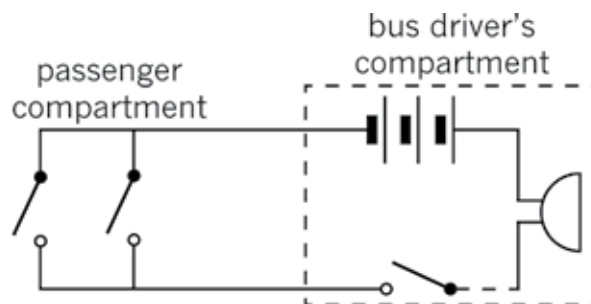

Figure 11: A circuit for passengers to tell the driver that they want to get off
Many buses have push switches for passengers to let the driver know they want to get off at the next stop. The circuit diagram might look like Figure 11. In this circuit diagram, there are two push switches for passengers. Any one of these switches can ring the bell next to the driver.
**Hint:** Look at Figure 11 again to see how dashed lines were used to show the part of the circuit in the bus driver's compartment. (2)